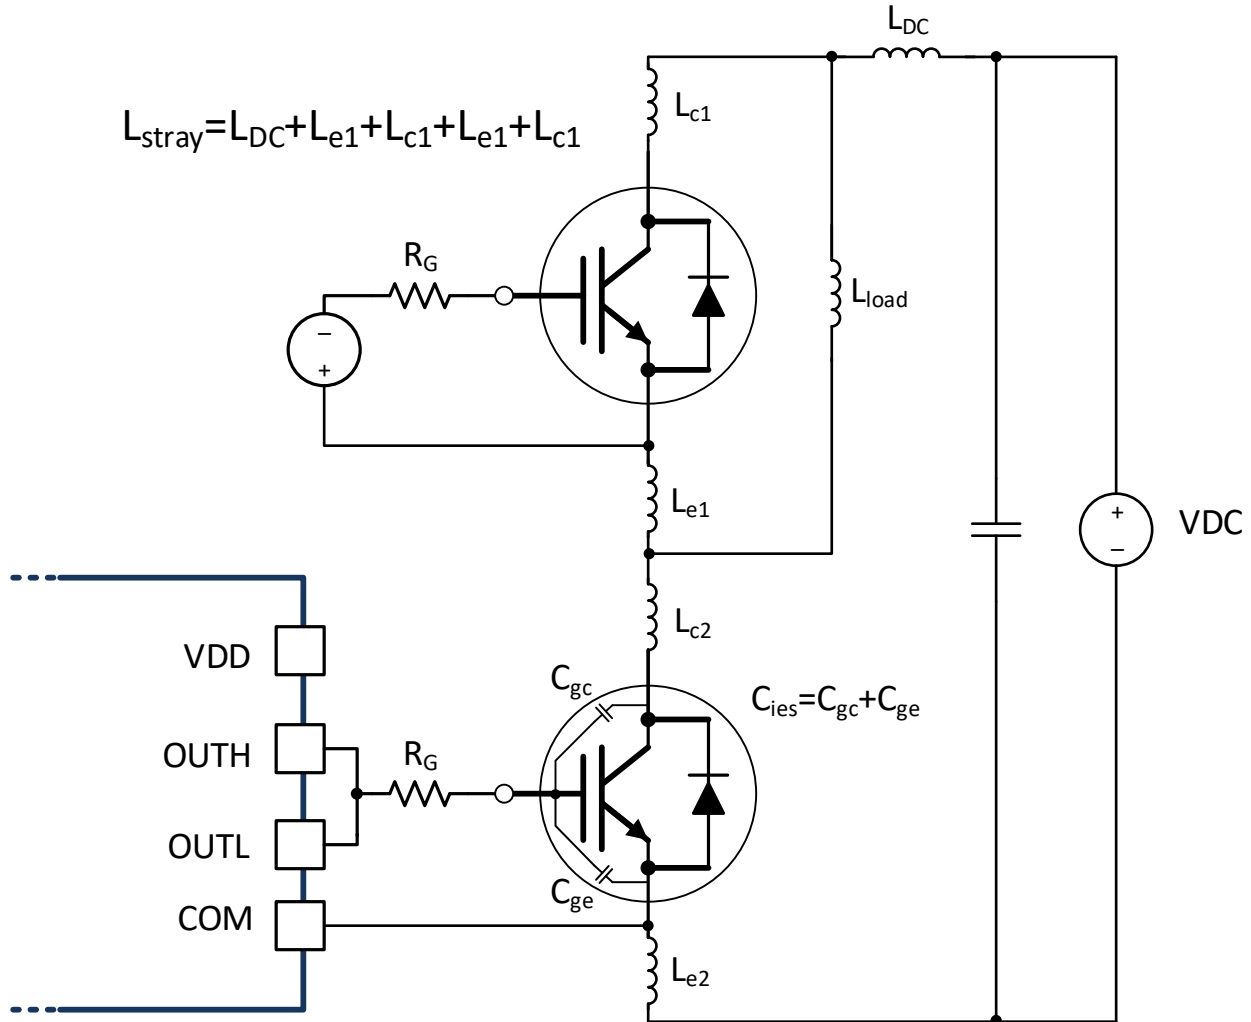

図 9-6. Stray Parasitic Inductance of IGBTs in a Half-Bridge Configuration
- L_{stray} is the stray inductance in power switching loop, as shown in Figure 9-6